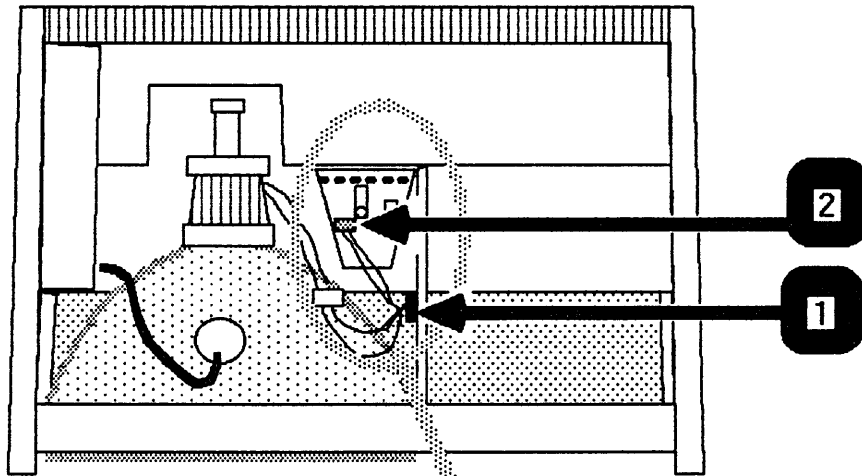

FIGURE 2
4. Clean the section of the video chamber wall where the transformer (Figure 2, #1) will be attached. This is the section adjacent to the disk drive chamber.
9. Press the bottom of the transformer firmly to the side (cleaned section) of the video chamber wall. (See Figure 2, #1.)